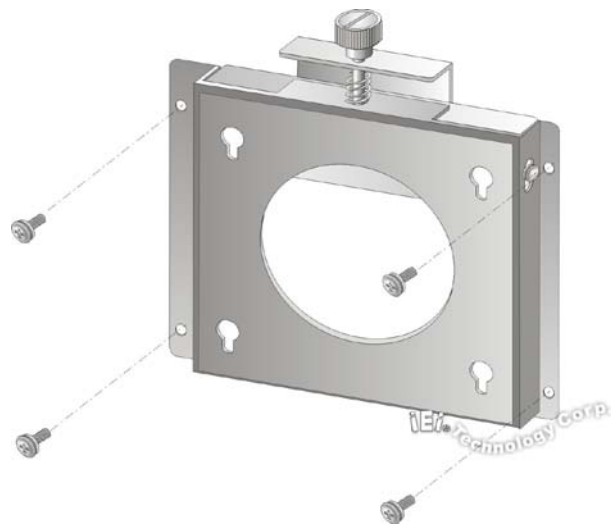

Figure 3-11: Wall-mounting Bracket
- Step 5:** Secure the mounting-bracket to the wall by inserting the retention screws into the four pilot holes and tightening them (Figure 3-11).